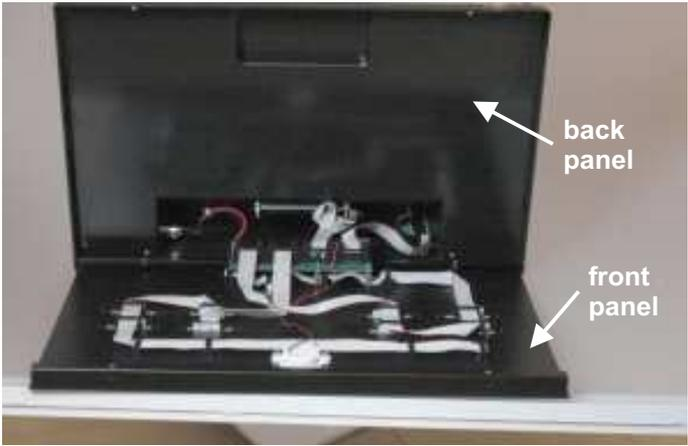

Fig.4
4.4 By the Total lighting Test, check if all LEDs turn on. If some LEDs stay switched off, we suggest to open the scoreboard, by unscrewing the 4 screws on the back (see Fig.3 and Fig.4 on pag.2), and verifying that all the electronic board connectors are well inserted.